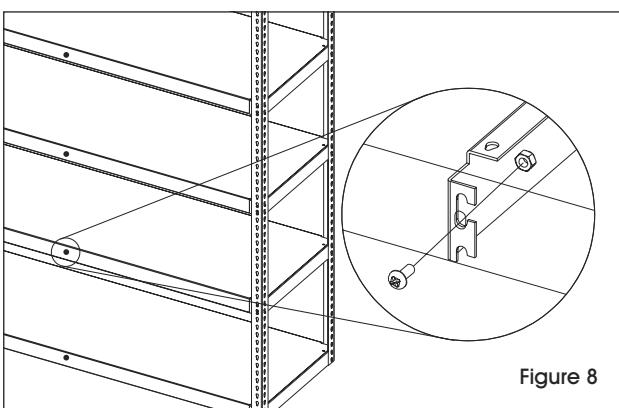

Figure 8
8. Once the shelves are in place, if additional stability is desired, secure the shelves with nuts and bolts (F). Fully tighten. (See Figure 8)